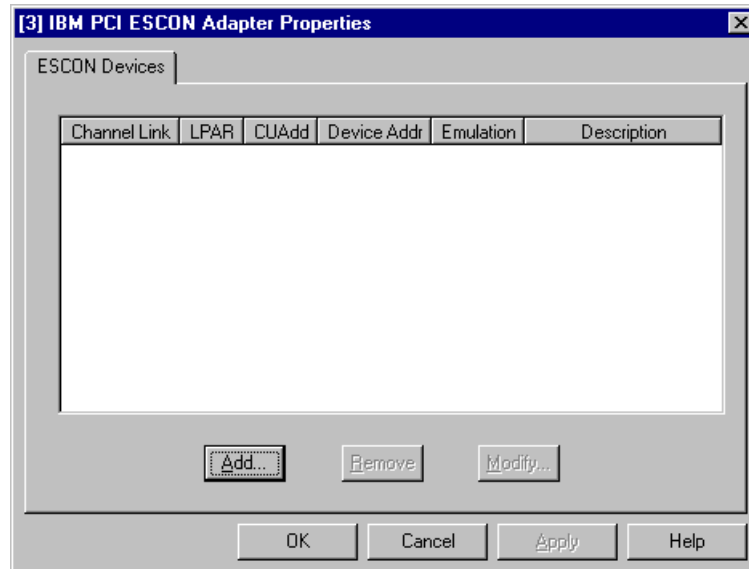

Figure 3-6. ESCON Adapter Properties
6. The system installs the adapter driver and returns an ESCON configuration screen (Figure 3-6). You may define your ESCON configuration now or you may define it at any time following installation. Chapter 4 describes the ESCON Configuration process in detail.